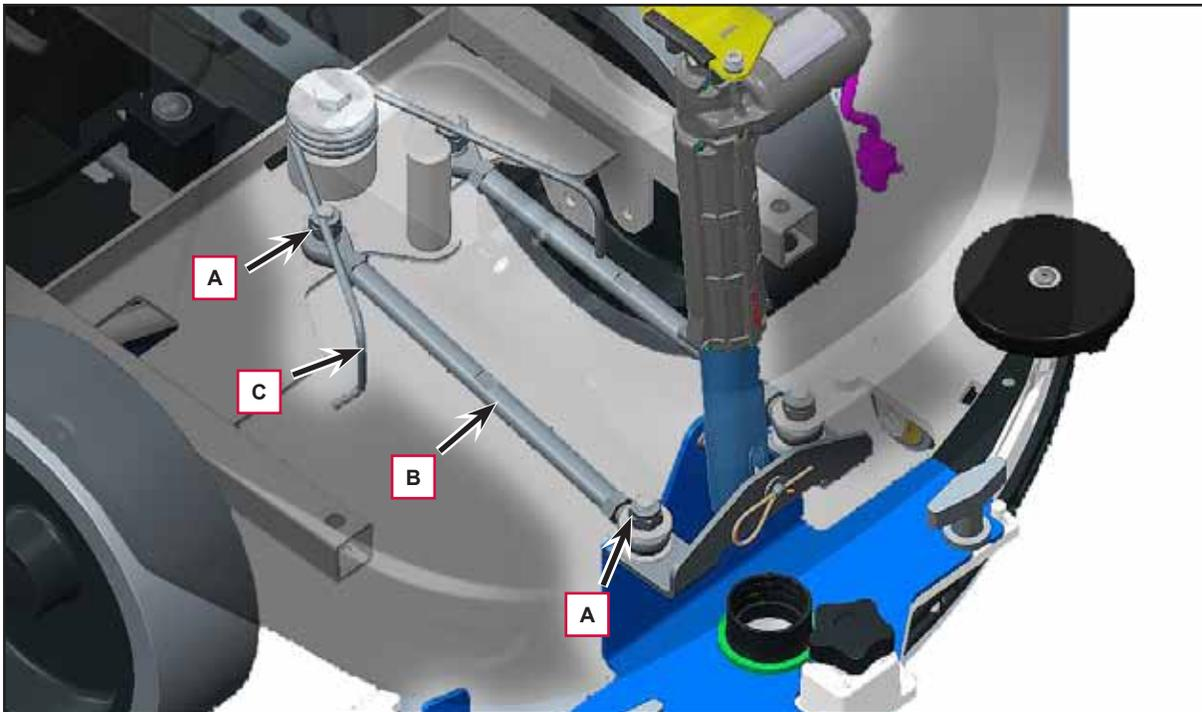

Figure 5
4. Unscrew the nuts (A, Figure 5), retrieve the washers and spacers.
5. Carefully disassemble the tie rod (B) from the studs, by paying attention to the squeegee reset spring (C).